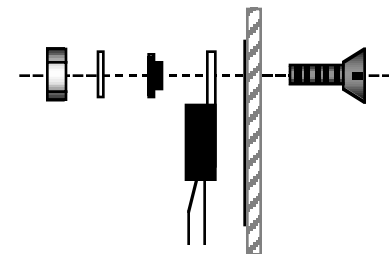

Figure 8-3
Attach Q7 to the right side panel using the hardware shown in Figure 8-3: a 5/16" (8 mm) x 4-40 flat-head screw, shoulder washer (black plastic), #4 internal-tooth lock washer, and 4-40 nut. **The small-diameter part of the shoulder washer must be inserted into the hole in Q7's tab. Do not over-tighten the hardware.**
- Bend the center lead of Q7 slightly away from the side panel, forming it as shown in Figure 8-3.